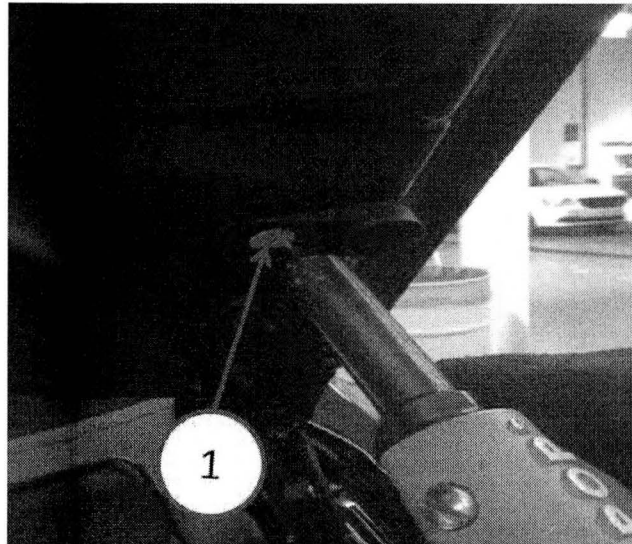

Fig. 5 Stricker Plate
4. Place hood striker in place on the hood, using the locating tab to locate where the holes on the striker are to sit. Once the holes are lined up rivet the striker to the hood using a rivet gun (Fig. 5).